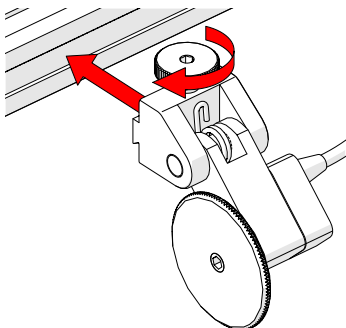

Fig. 57 - Attach to frame bar
1. Loosen the encoder's dovetail jaw and mount it to the frame bar (Fig. 57).